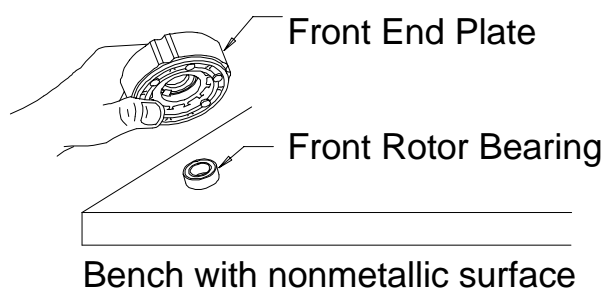

Figure 4
3. Remove the Front End Plate (2) from the Cylinder by tapping the splined end of the Rotor (6) with a plastic hammer. If the Front End Plate does not come loose, secure a center punch in a vise with the point angled downward and outward from the vise. Then, grasp the Cylinder and Front End Plate in one hand and position the hole in the end of the Rotor against the punch. **NOTICE:** Be careful not to drop the Cylinder since it can be damaged by hitting a hard surface. Using the other hand, tap the punch with a hammer while pressing the Rotor against the punch. After a few taps, the Front End Plate will slide off of the Cylinder.
**NOTICE:** To prevent damage to the Cylinder, do not tap or strike Cylinder on a hard or metallic surface when removing the Rotor Bearings (3) and (4).
4. To remove the Front Rotor Bearing, hold the Front End Plate with Front Rotor Bearing down and tap the Front End Plate on a flat, nonmetallic surface such as a work bench. This will loosen the Front Rotor Bearing so that it will drop out of the Front End Plate. See Figure 4.